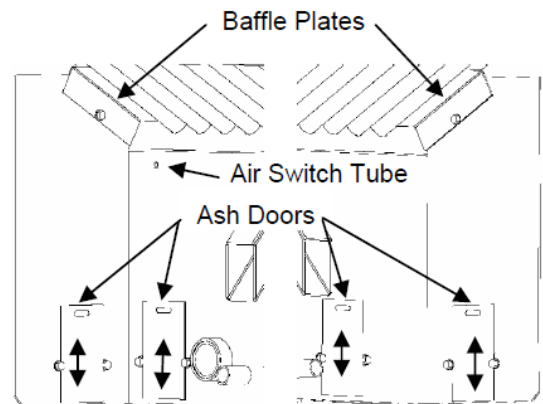

Figure 14
- B. **Interior Chambers** – The four ash doors in the firebox of the Monroe can be removed for periodic cleaning (refer to figure 14). These doors allow access to the chamber behind the firebox. You must also clean out behind the baffle plates.